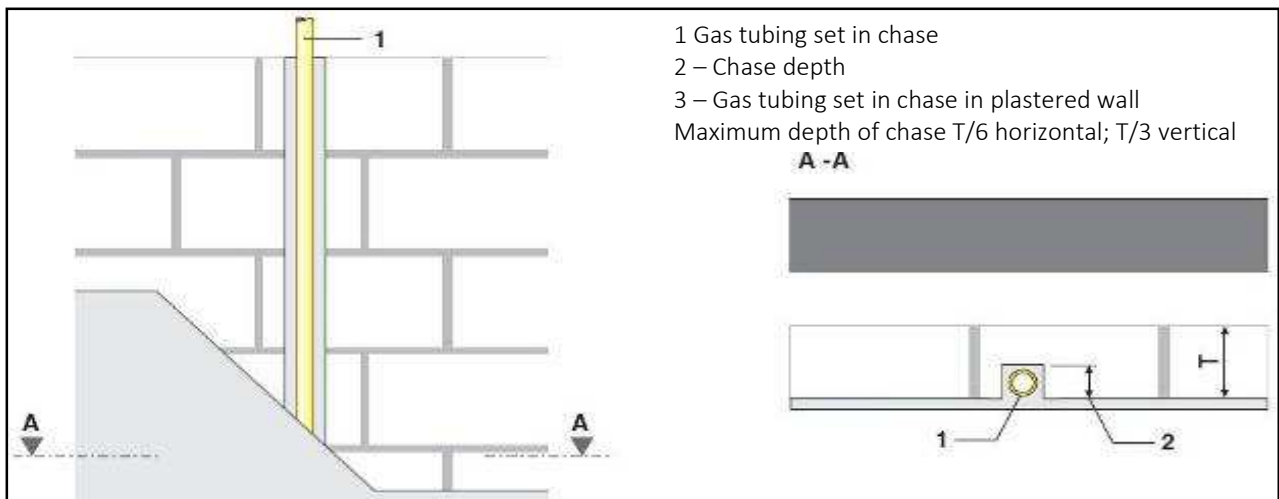

Figure 13: Brick and block plastered wall
Examples of BOAGAZ® tubing in masonry and timber frame walls are presented in Figures 13 -16.
- brick and block plastered (Figure 13)